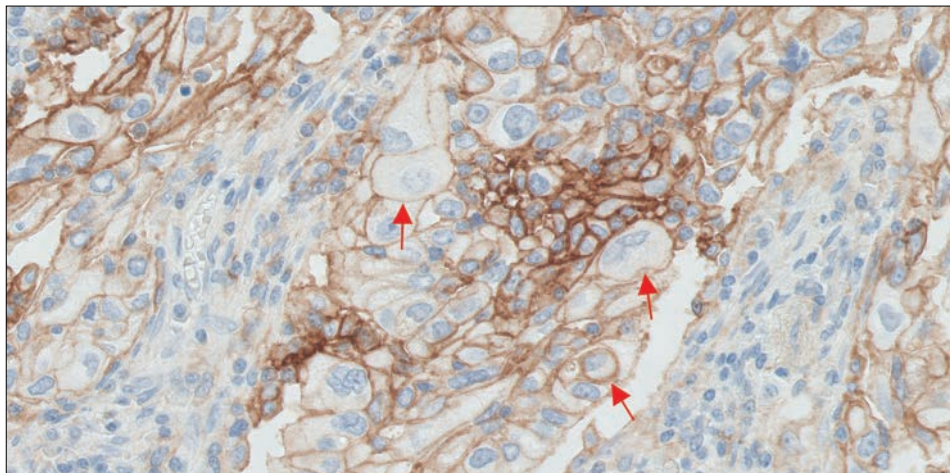

Figure 9. Red arrows show complete circumferential plasma membrane staining of viable tumor cells.
- The tumor area is divided into four equivalent quadrants in Figure 9.